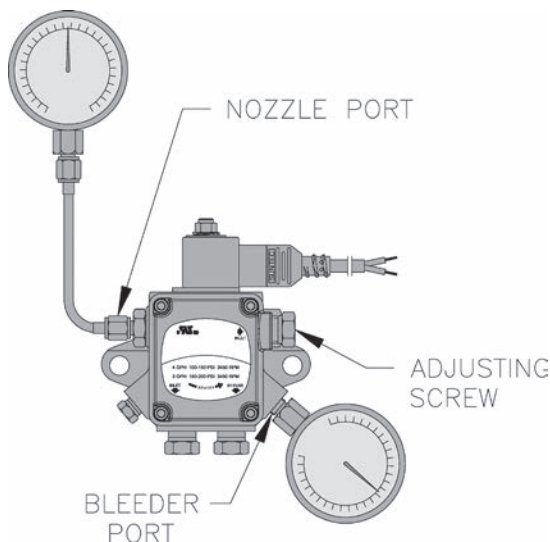

Figure 14: Adjusting Fuel Pump Pressure
- a. When checking a fuel unit's operating pressure, a reliable pressure gauge may be installed in either the bleeder port or the nozzle port. See Figure 14.